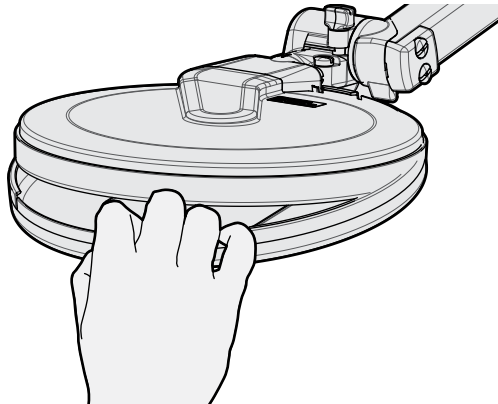

Figure 26: Replacing the Skid Plate
- g.** To replace the Skid Plate, remove the original using fingers to lever it from the coil, then push the replacement Skid Plate onto the coil (see Figure 26).